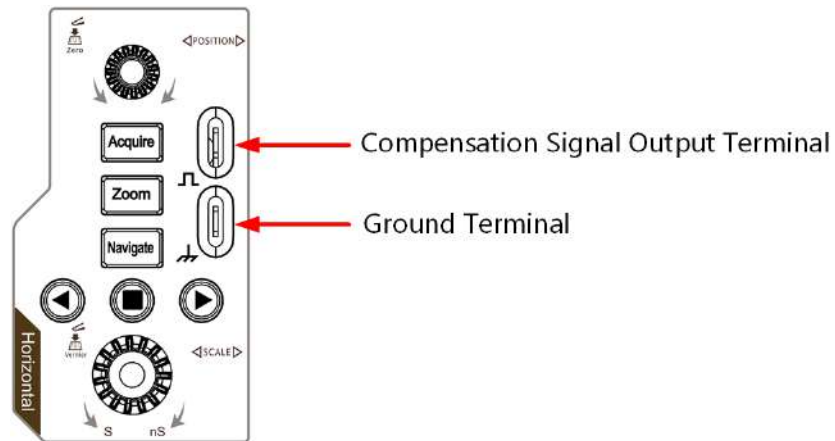

Figure 4.12 Use the Compensation Signal
2. Connect the ground alligator clip of the probe to the "Ground Terminal" as shown in Figure 4.12.
3. Use the probe to connect the input terminal of CH1 and the "Compensation Signal Output Terminal" of the probe, as shown in Figure 4.12.